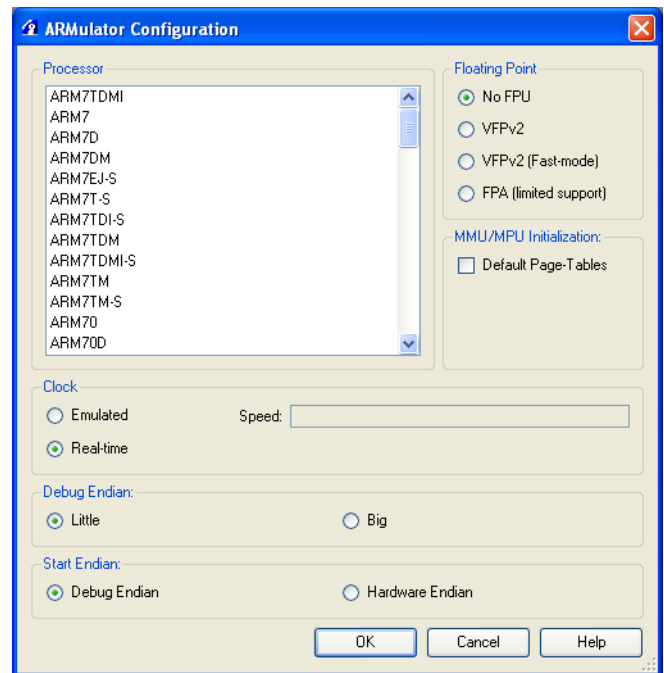

Figure 2-2 ARMulator configuration dialog box
- d. Select **Configure...** from the context menu to open the ARMulator Configuration dialog box. Figure 2-2 on page 2-14 shows an example: